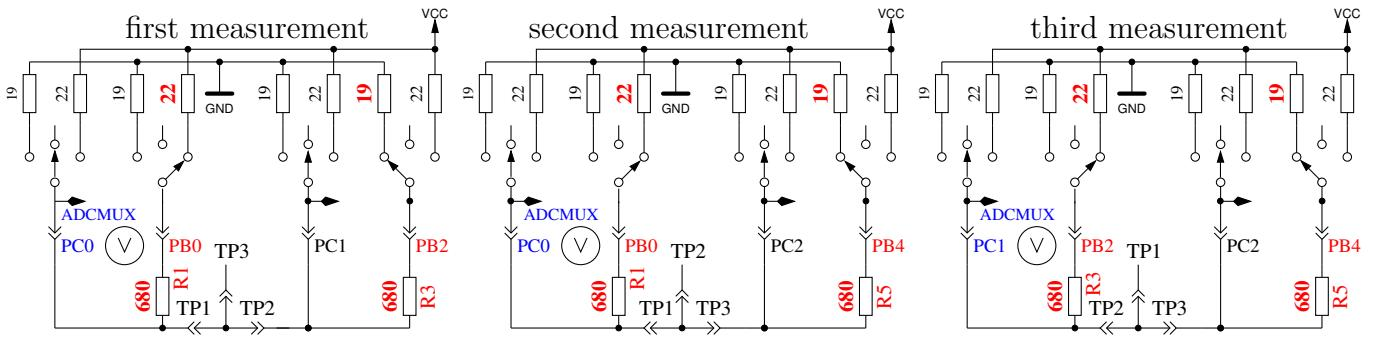

Figure 5.65. Comparison of  $680\Omega$  resistors
2. **Comparing of the 680Ω resistors.** In row 1 the cryptic text "+RL- 12 13 23" is shown. Meaning of this is as follows: The RL is the short form of Resistor Low meaning the 680Ω resistors. The 12 stand for: resistor at pin 1 is connected to VCC (+) and resistor at pin 2 is connected to GND (-). The result of this measurement is displayed in row 2 at the first place as difference to the theoretical value. In row 1 follows now a "13" which means, that the first connection of measurement 1 is still connected with 680Ω to VCC but that the resistor of pin 3 is connected to GND. The result is displayed in the middle place of row 2 as difference to the theoretical value. The last measurement of this test "23." means that now the resistor at pin 2 is connected to VCC (+) and the resistor of pin 3 is connected to GND. The result of measurement is displayed at the last place of LCR row 2 as difference to the theoretical value. Please remember, that the resolution of the ADC is about 4.88mV! The measurement situation is also shown in figure 5.65. The theoretical value with respect to the internal resistance of the pins should be:  $\frac{5001 \cdot (19+680)}{(19+680+680+22)} = 2493$ .